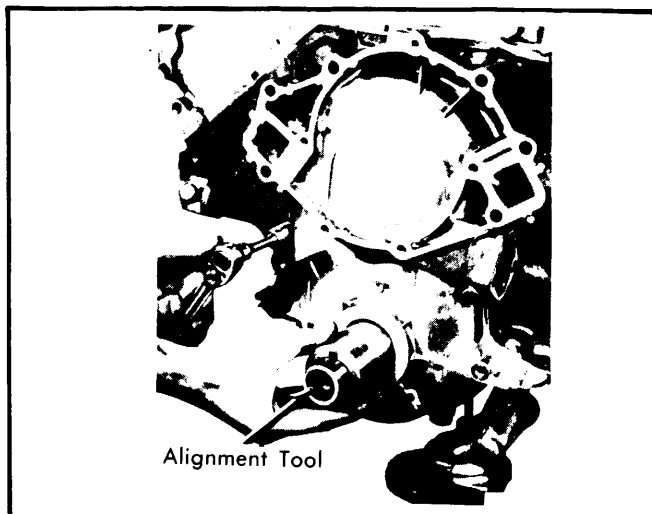

Fig. 14 Aligning the Front Cover
2) Position front cover on cylinder block. **NOTE** - Use care when installing cover to avoid seal damage or possible mislocation. Install front cover to seal alignment tool into proper position as shown in Fig. 14. Install cover attaching bolts, and while pushing in on alignment tool, tighten oil pan-to-cover bolts, and cover-to-cylinder block bolts. To install remaining components, reverse removal procedure.